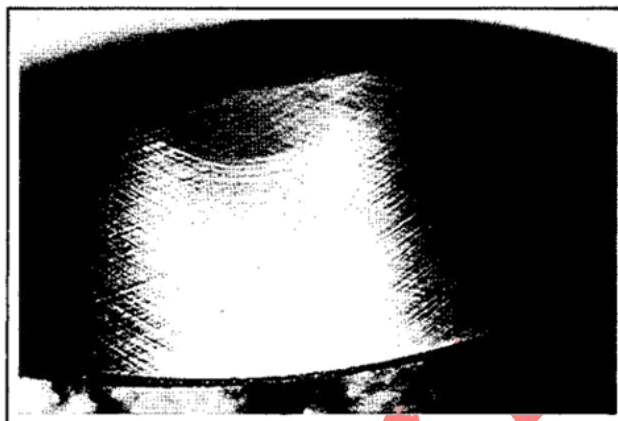

Figure 10-2. Cylinder Bore Crosshatch After Honing.
3. When bore is within .0025" of desired size, remove coarse stones and replace with burnishing stones. Continue with burnishing stones until within .0005" of desired size and then use finish stones (220-280 grit) and polish to final size. A crosshatch should be observed if honing is done correctly. The crosshatch should intersect at approximately 23-33° off the horizontal. Too flat of an angle could cause the rings to skip and wear excessively, too steep of an angle will result in high oil consumption (refer to Figure 10-2).